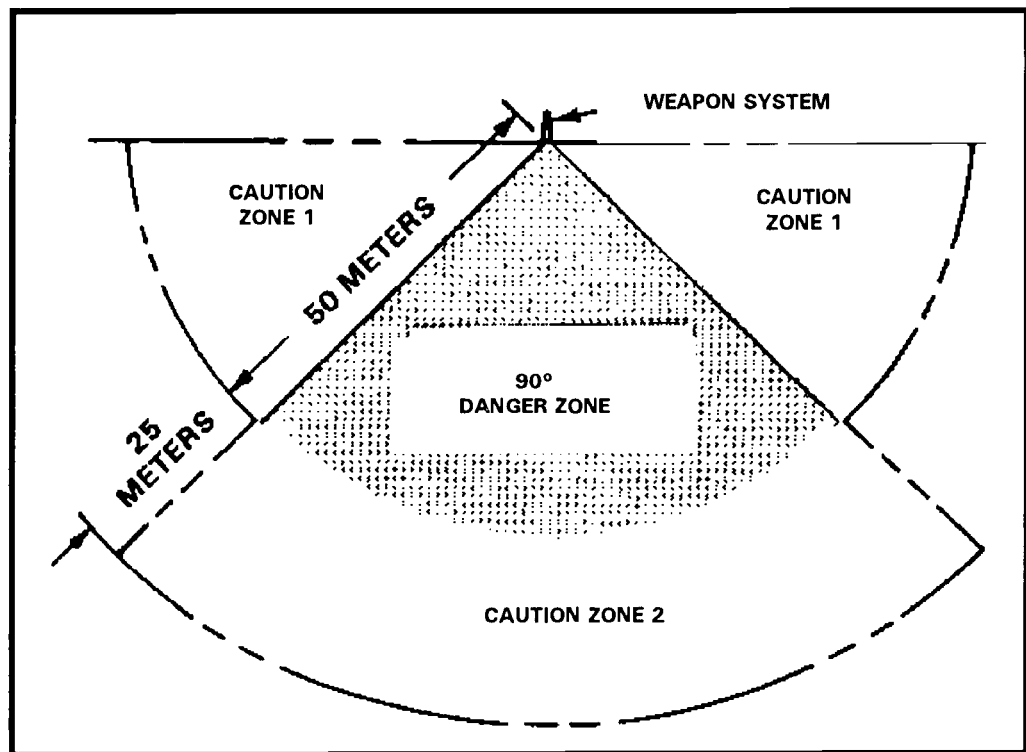

Figure A-4. ATWESS danger zone.
b. Before pulling the PULL-TO-ARM switch, always check to ensure there are no personnel in the ATWESS danger zone. This zone extends for 75 meters behind the ATWESS firing chamber and covers an arc 90 degrees wide (Figure A-4, page 6).